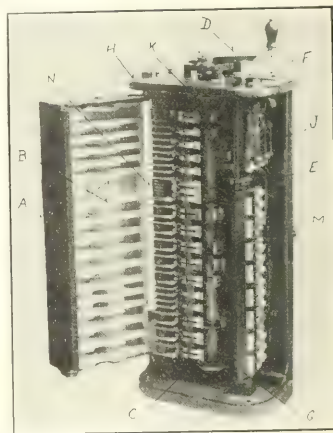

FIG. 1.—LATEST TYPE OF K CON-TROLLER.
are the same, and so we will describe one of the latest design shown by Fig. 1 known as the K 35 controller. This view shows the inside of the controller, with the complete arc deflector (A) opened and swung back. In normal position for operation of the controller this are deflector is closed, so that each division plate or arc shield (B) will occupy the space between the contact fingers (C). The whole front of the controller box is then covered over by a wooden cover lined with asbestos. In this, the latest type of K controllers, the operating handle (D) is connected directly to the shaft, to which is fastened the main cylinder (E), dispensing with gears as on some of the older styles, so that the controller operates easily. The reverser handle (F) which operates the reverser drum (G) is interlocked with the power operating handle (D), so that the latter can not be moved unless the reverse handle is fully set in either forward or reverse position; also in case the power handle is not in the "off" position the reverse handle can not be moved. Directly below the controller cap (H) is the
Referring to Fig. 1, when the arc deflector (A) is closed into place there is an arc shield on top and bottom of each finger or group of fingers. For each finger or group there is a blowout coil (N). These blowout coils are simply turns of wire, through which flows the motor current, wound around steel cores, which are fastened to the finger basis. Steel plates are embedded in each arc shield (B), which distributes the magnetic flux through the arc shutters (the space between the arc shields) parallel to the shaft and at right angles to the arcs formed. The scheme used in the older types of K controllers is one long blowout coil for all the fingers, which means a much weaker field for disrupting the arc with not nearly as good operation.